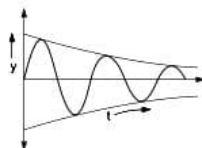

Fig. 1.2 : Under damped oscillation
- Example of under damped oscillation is pendulum in air, electric oscillator etc. Fig. 1.2 shows under damped oscillation.